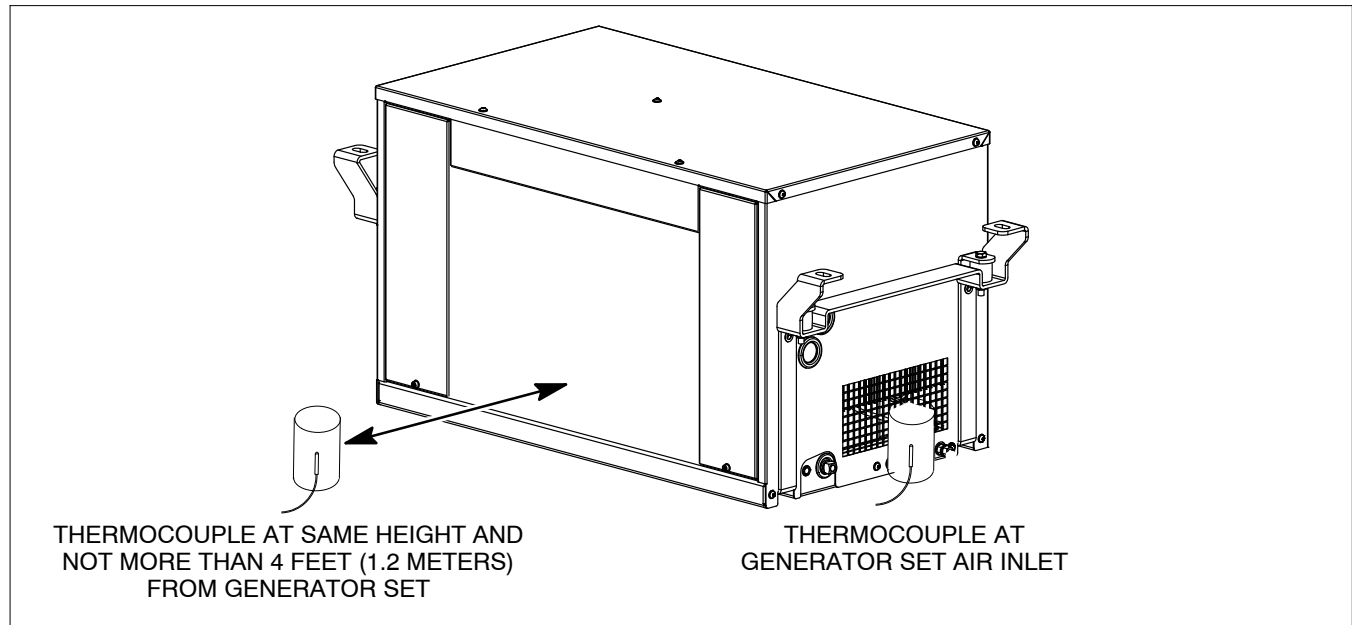

FIGURE 6-1. THERMOCOUPLE LOCATIONS
2. Measure temperatures with shielded thermocouples not heavier than No. 24 AWG (0.25 mm²). A 2 inch diameter white PVC pipe 6 inches long is a good thermocouple shield. See Figure 6-1.